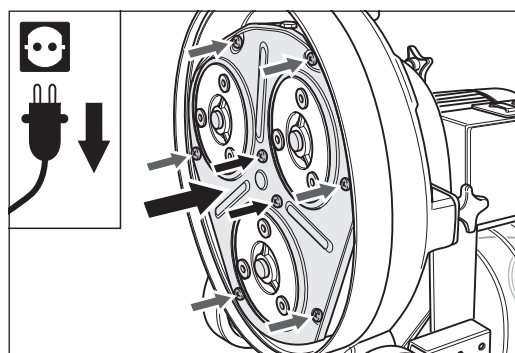

Fig. 85 Replace the cover and fix it in place using the eight screws.
- 6 Put the cover back on in the proper position. The seal must be positioned evenly around the pulleys. Use two screws to hold it in place initially before replacing the other screws (fig. 85).